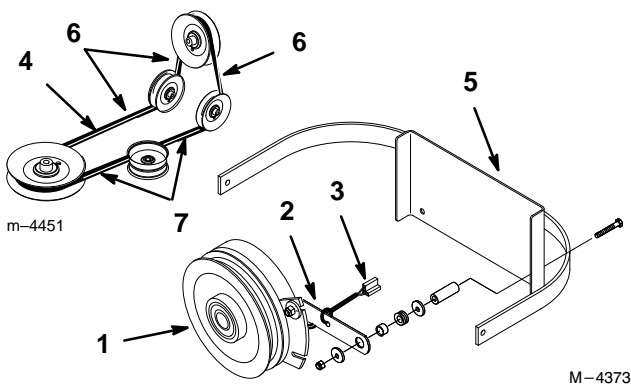

Figure 8
IMPORTANT: Check the amount of twist in belt between pulleys. Make sure it is only what is specified in figure 8.
2. Install clutch retaining strap and plug clutch terminal into main wire harness (Fig. 8).